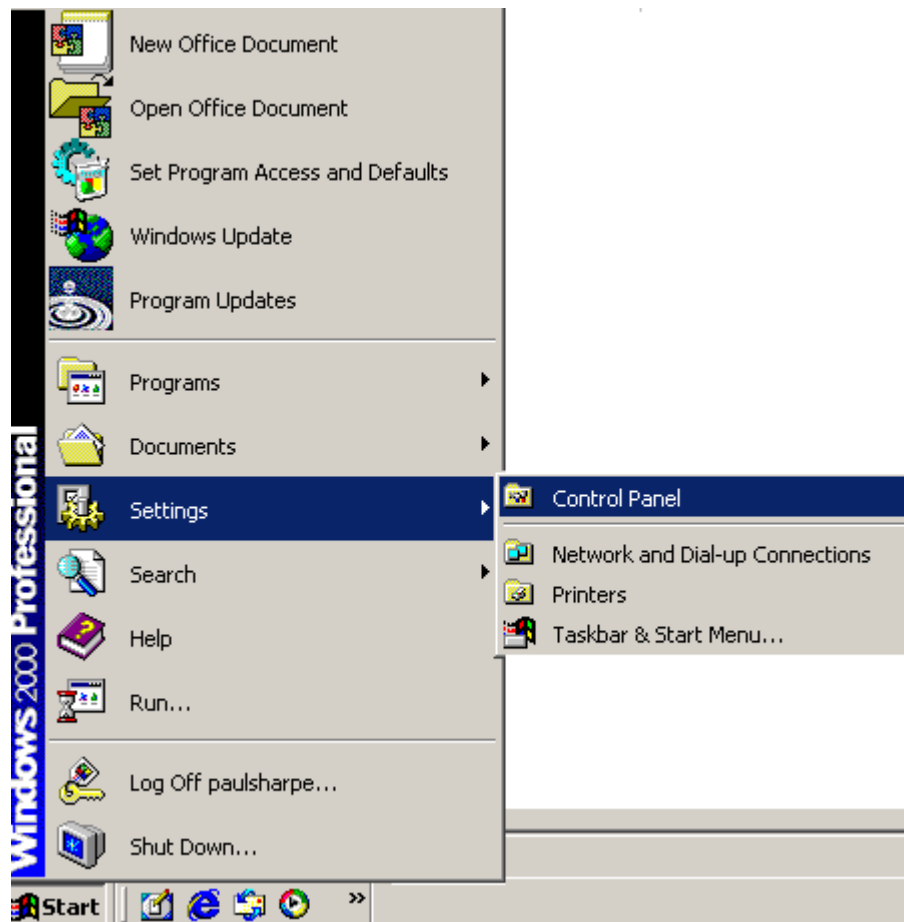

Figure 6-12: Access Windows Control Panel
Step 1: Open **Windows Control Panel** (Figure 6-12).